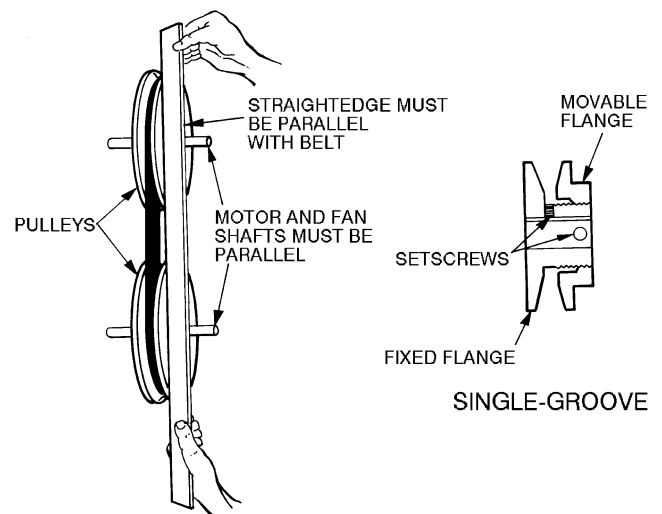

Fig. 14 — Condenser Fan Pulley Adjustment
3. Loosen movable pulley flange setscrew (Fig. 14).
PULLEY ALIGNMENT — Shut off unit power supply. Loosen fan motor pulley setscrews and slide fan pulley along fan shaft. Make angular alignment by loosening motor from mounting bracket (see Fig. 14). Check alignment with a straightedge.